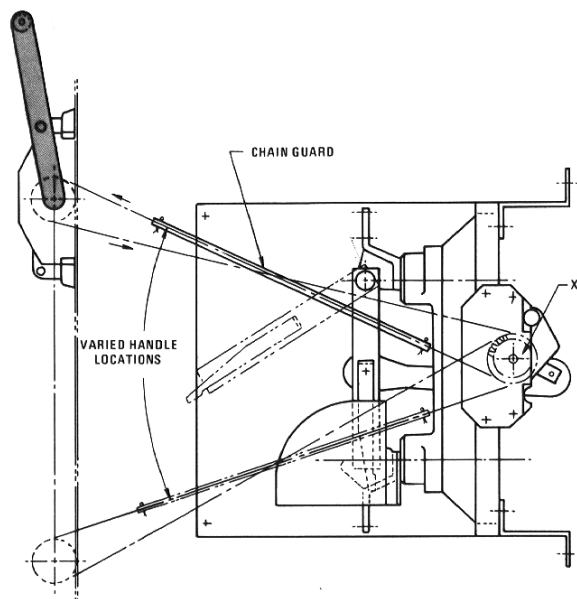

Fig. 11 Handle "UP" in switch closed position.
The component parts for this type installation are shown in Fig. 11. The arrangement is essentially the same as for Type V, except the handle is at the front right.
- a. Assemble the chain drive sprocket kit (Mk 302, Dwg. 316-557, sprocket, washer and retaining ring) on the stored-energy device of the switch at the right, as shown at (X) in Fig. 11.
- b. Mount the frame-mounted switch (Fig. 11) in the enclosure.